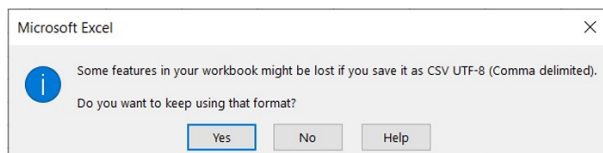

Figure 3-87 Saving the exposure curve file
- 14.1. At the next excel message, press **Yes**, see **Figure 3-87 below**.